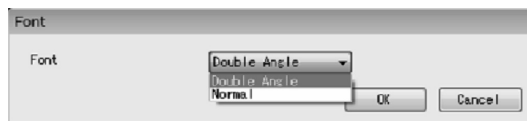

Fig.84
- ③ Click the triangle on the right side of "Font" as shown in Fig. 84, and select the font to set from the drop-down list.